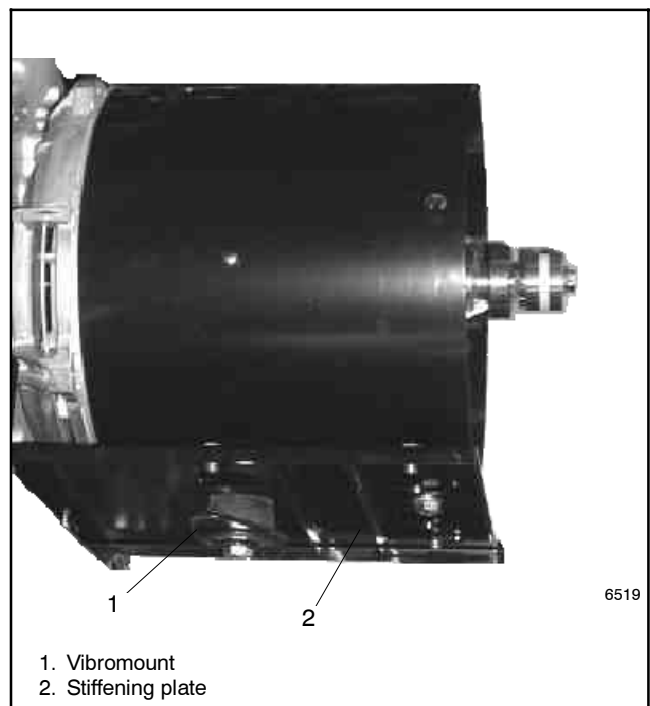

Figure 6-21 Stiffening Plate and Vibromount
- a. Attach the vibromount to the alternator through the hole in the stiffening plate. See Figure 6-21.